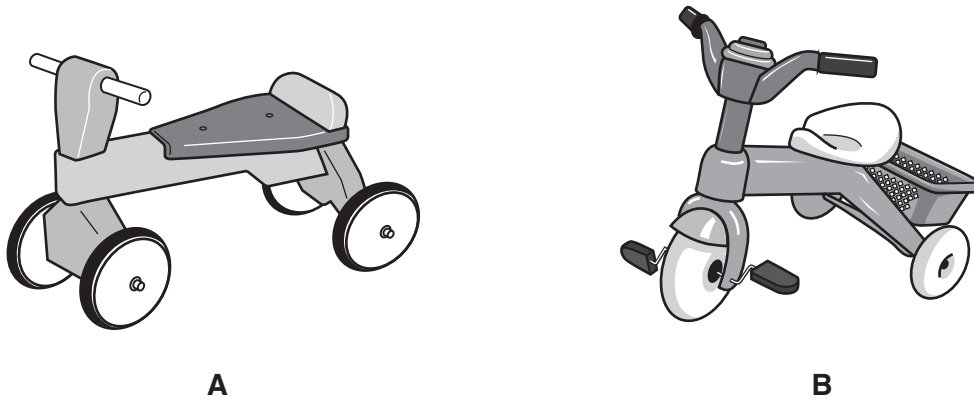

Fig. 5
- 7 Fig. 5 shows two sit-on toys used by children.